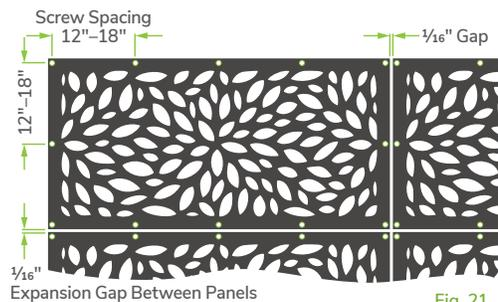

Fig. 21
- Space holes every 12" to 18" on all four sides of each panel (Fig. 21).
2. Clamp panels to frame and attach with screws every 12"-18" on all four sides (Fig. 21).